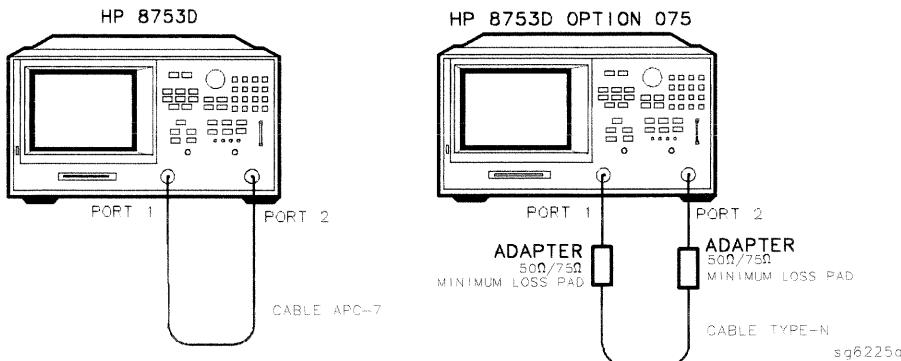

Figure 2-50. Receiver Harmonics Test Setup
19. Connect the equipment as shown in Figure 2-50.